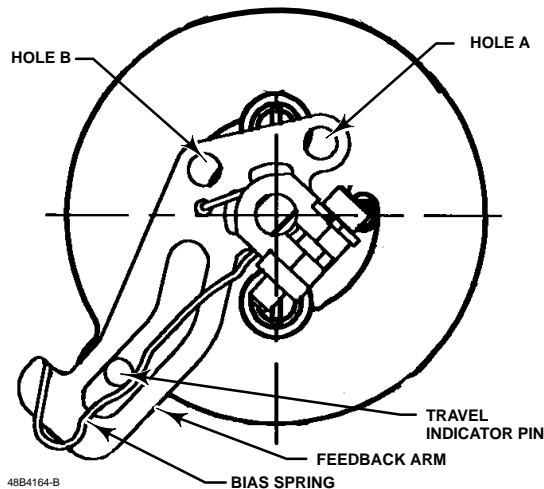

Figure 2-11. Positioning Travel Indicator Pin in the Feedback Arm (Viewed as if Looking from the FIELDVUE DVC6030f toward the Actuator)
7. Position the digital valve controller so that the pin on the travel indicator engages the slot in the feedback arm and that the bias spring loads the pin as shown in figure 2-11. Attach the digital valve controller to the actuator or positioner plate.
7. Position the remote feedback unit so that the pin on the travel indicator, engages the slot in the feedback arm and that the bias spring loads the pin as shown in figure 2-11. Attach the remote feedback unit to the actuator or positioner plate.